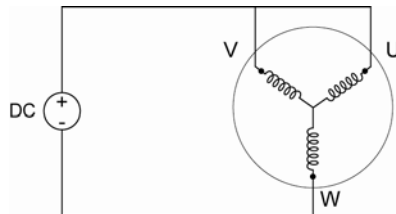

Figure 49 Hall Connection Diagram
1. With the motor's feedback cable connected to the drive, randomly connect two motor power wires and slowly apply a positive voltage with respect to the third. See Figure 49 on page 192.
2. Remove the motor power leads, leaving the feedback cable connected to the drive. Connect motor power wires U and V and slowly apply a positive voltage with respect to W. (See Figure 49.)